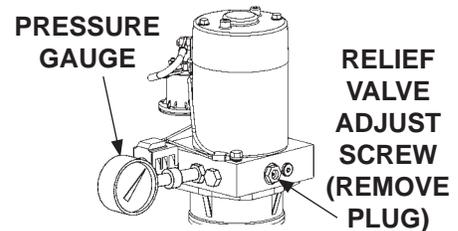

**FIG. 37-1**
1. Use voltmeter to verify power is being supplied to solenoid terminal "B". Recharge the battery if voltmeter indicates less than 12.6 volts (**FIG. 37-1**).